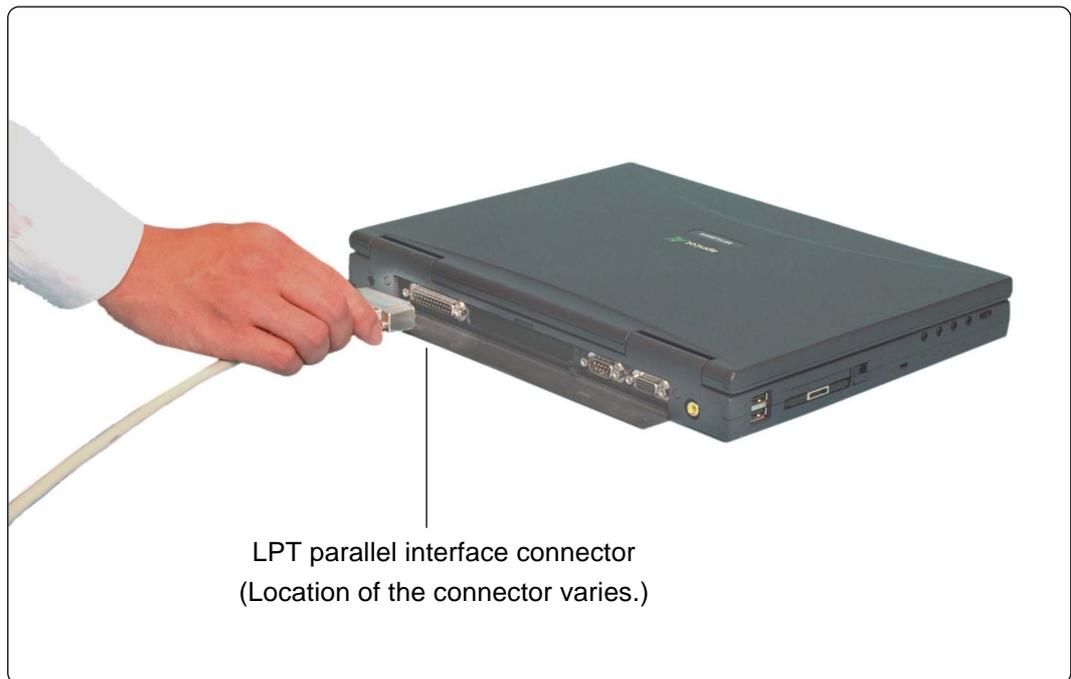

Figure 4.7 Connecting LPT parallel interface cable (host machine side)
▶ *Figure 4.7 Connecting LPT parallel interface cable (host machine side) (P.35)*